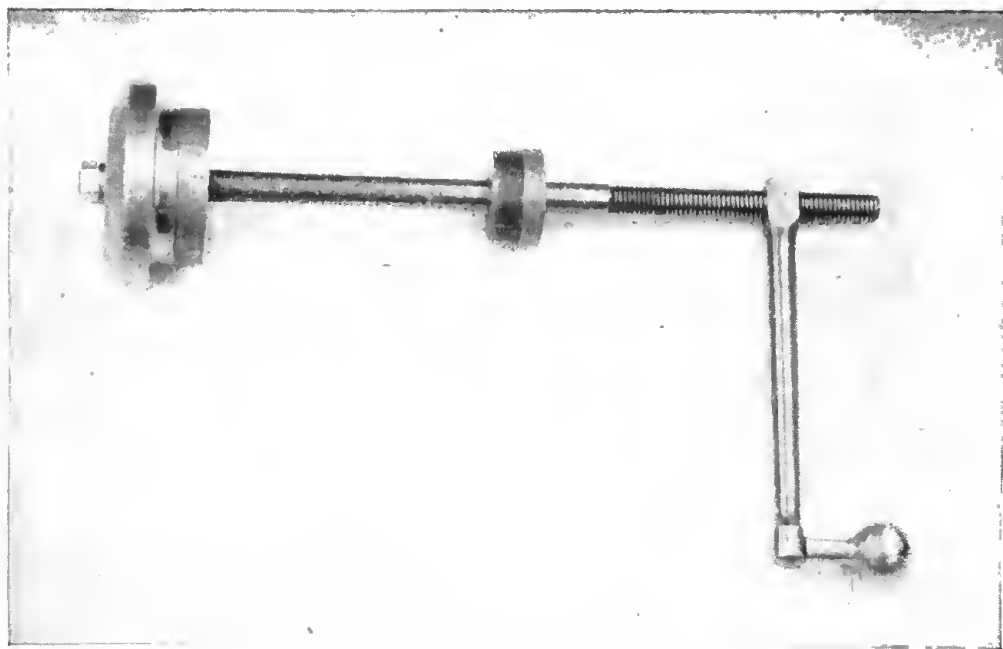

Figure 40. Propeller piston-moving tool.
(2) Spanner wrenches are used to loosen and tighten nuts (such as blade-retaining nuts) that are circular on the outer surfaces. There are notches in the outer surface of the nut into which the lugs of the wrench fit. Spanner wrenches are used as any other wrench is used, but they have a greater tendency to slip off the nut. This should be guarded against by the mechanic.
b. PROPELLER PISTON-MOVING TOOL. (1) The propeller pitch-changing tool consists of a slightly tapered head mounted securely on a threaded shaft. A crank is provided which is threaded to fit the shaft. It also has a bearing plate which slides onto the shaft. (See fig. 40.)
(2) It is used to move the Hamilton hydromatic-propeller piston forward in the dome assembly when the dome is not installed in the hub. The shaft of the pitch-changing tool is inserted from the drive-gear end of the dome assembly, the bearing plate is slipped on the shaft and screwed into the dome, and the crank turned. As the crank is turned, the head of the tool is drawn forward, pulling the piston to its full-forward position. This changes the position of the piston in the dome assembly.